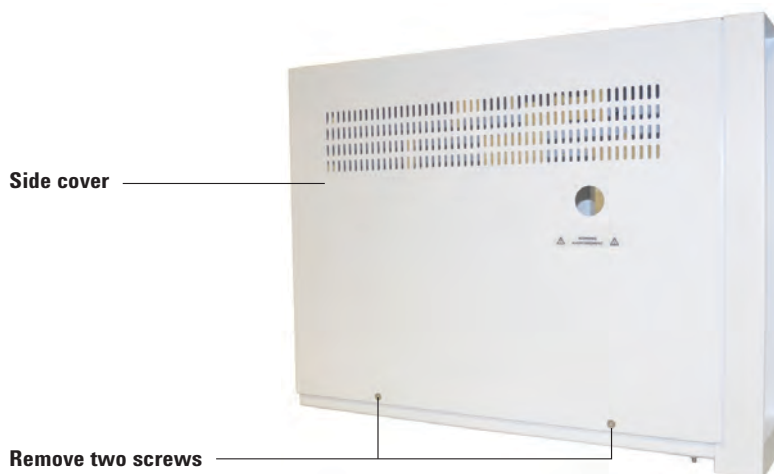

Figure 14 Remove the two screws from the side cover
- 4 Use a T-20 Torx driver to remove the two screws that secure the side cover onto the third detector box assembly and remove the cover. Set the cover and screws aside and keep them for later use. See Figure 14.